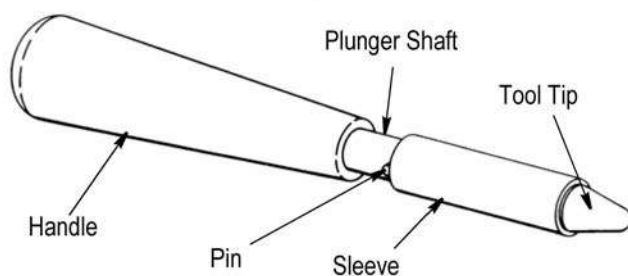

Figure 2
1. Use the shield enclosure expansion tool 58241-1 to get the enclosure on the cable as shown in Figure 2.
9. Insert the jackscrews (if provided) to complete the assembly. See Figure 2.